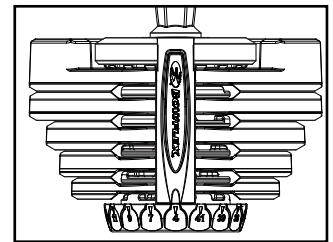

Figure 1
3. The weight increments range from 4 to 41 kg (10 lbs to 90 lbs) on both adjustment knobs. To properly select a given weight (9 kg [20 lbs] for example), rotate both adjustment knobs until that number (9) is aligned with the arrow located on the outward edge of the Bowflex® nameplate (Fig. 1).